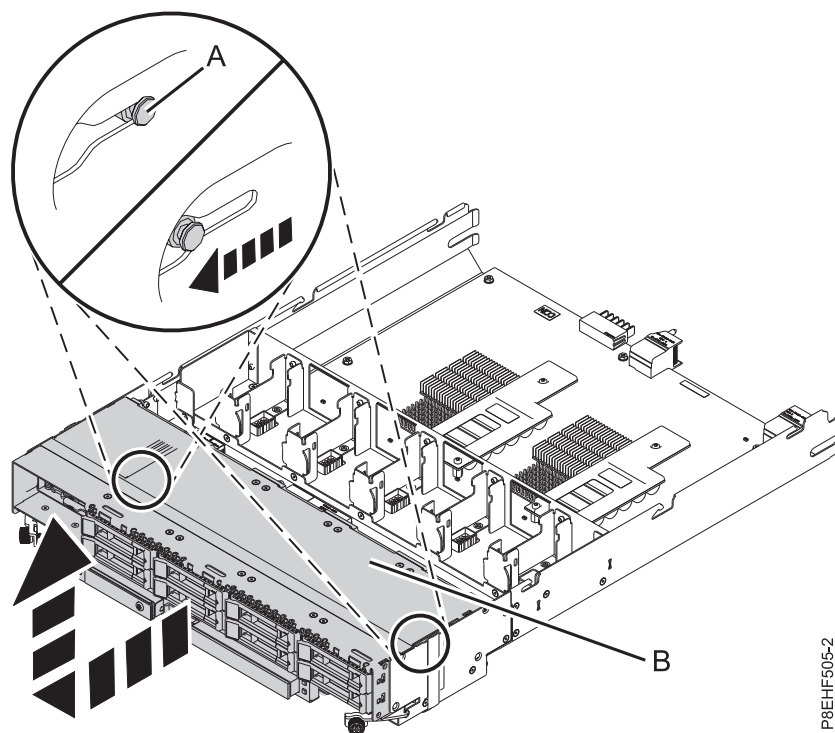

Figure 10. Removing the disk drive backplane
10. Grasp the disk drive backplane (B) with both hands and pull it toward you until pins (A) that are located underneath the disk drive backplane, clear the RAID assembly slot. Then, lift the disk drive backplane to remove it, as shown in Figure 10.